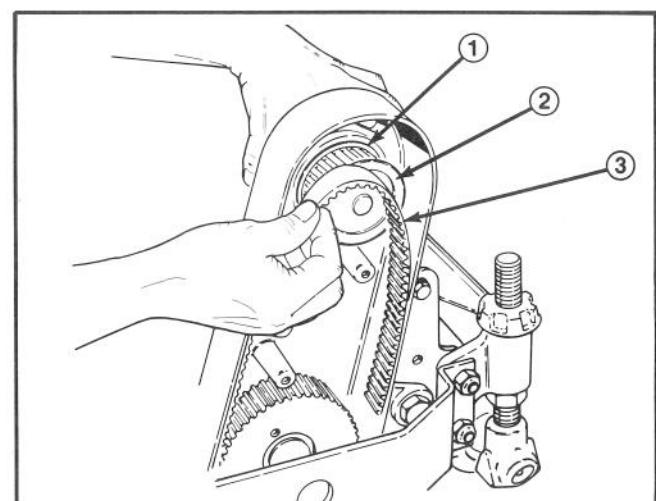

Figure 12
**Note:** Check to see that motor pulley set screws are tight on motor shaft before installing motor onto cutting unit (Fig. 12).
C. Insert the reel drive motor pulley through the housing and slip the cutting unit drive belt over the pulley (Fig. 12).